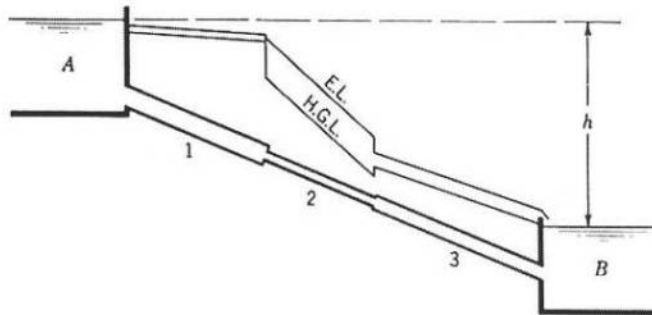

Figure 7
- (b) Suppose in Figure 7, the pipes 1, 2 and 3 are 350 m of 30 cm diameter, 200 m of 18 cm diameter and 280 m of 26 cm diameter, respectively of new cast iron ($e = 0.25$ mm) and are conveying 15° C water. If $h = 15$ m, find the rate of flow from A to B. Use Moody diagram for friction factor (See Figure 10). (13)